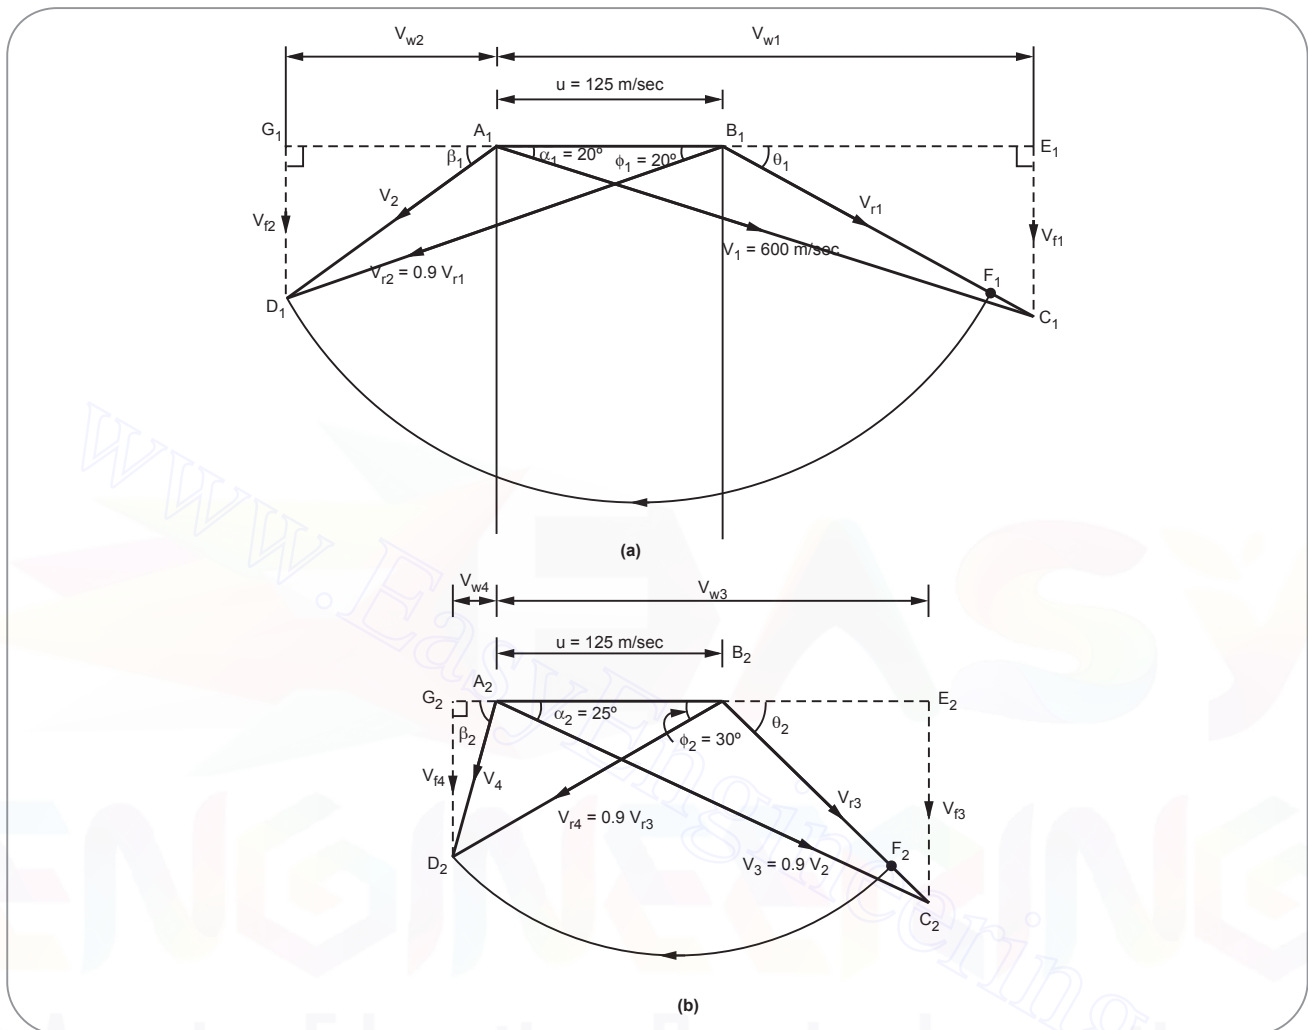

Fig. 3.29
- Consider a suitable scale as 1cm = 50 m/sec and draw velocity triangles as shown in Fig 3.29 (a).
(See Fig. 3.29 on next page)
- Consider a suitable scale as 1cm = 50 m/sec and draw velocity triangles as shown in Fig 3.29 (b).